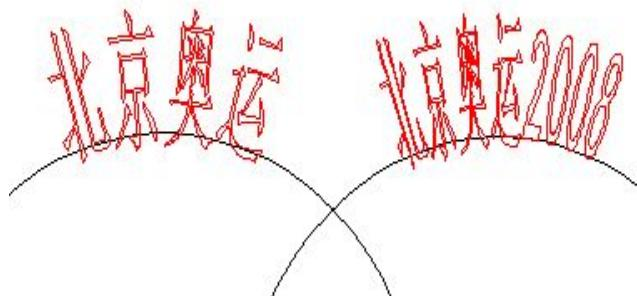
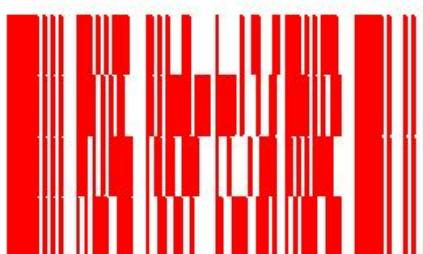
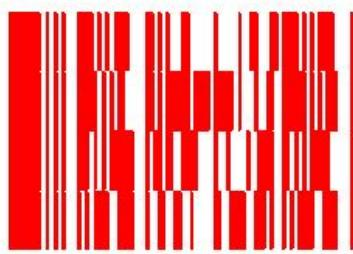

Figure 4-13 Comparison of Two Texts (Limiting Angle is 45 degrees.)
Figure 4-18 PDF417 Barcode
Figure 4-19 Compress PDF417 Barcode
ABCD Normal mean text will be parallel with the curve, as fig 4-13.
Fig 4-13 normal arrange
qrst † Base means the base line of the text is superposition with the curve, as fig 4-13.
means text stay on the curve freely along with the curve, the position of the text is up to as fig 4-18.
Fig 4-18 freely arrange
put text on the other side of the curve, after this function, fig 4-13 will like fig 4-19.
Fig 4-19 put text on the other side of the curve
**Angle range limit:** When checked, no matter how much chars that users type in, the text will be limited in the angle range. (Figure 4-13)
PDF is the abbreviation of the Portable Data File. Figure 4-18 is the demonstration of PDF417 Barcode and Figure 4-19 of the Compress PDF417 Barcode. Figure 4-20 is the parameter setting of the PDF417 Barcode.
Figure 4-18 shows a feature of a barcode with the row's number is four and the column's is four.